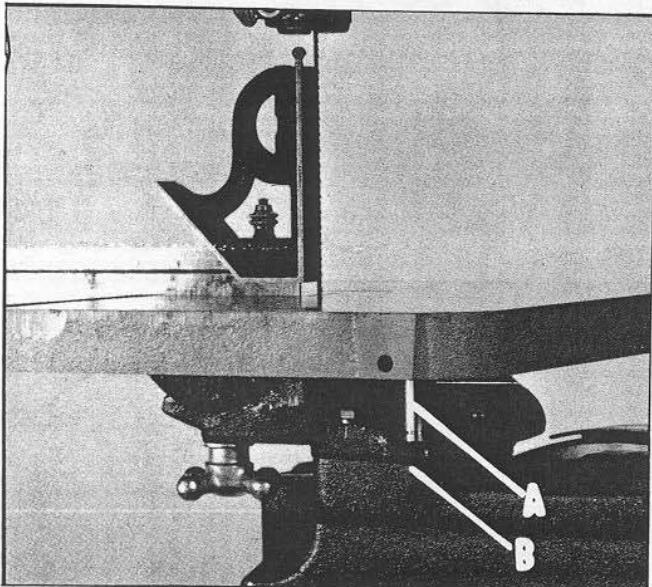

Fig. 12
2. Place the stop (A) Fig. 12, on the adjusting screw.
4. When the table is at 90 degrees to the blade, the stop (A) should come into contact with the bottom of the table. If an adjustment is necessary, loosen nut (B) Fig. 12., and turn adjusting screw until the stop (A) contacts the table.
5. It is necessary to remove the stop (A) Fig. 12, when tilting the table to the left.